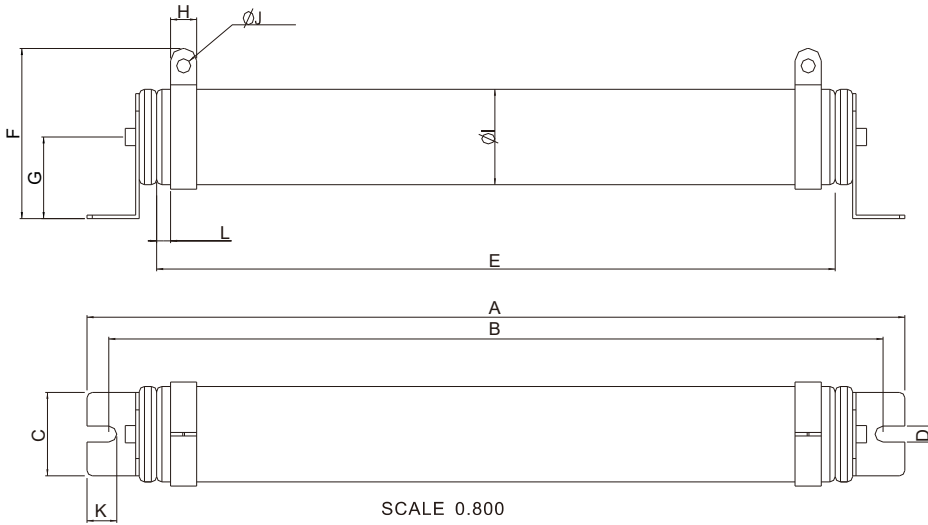

Figure 7-1
1.1 Wire wound resistors: For 1000 W and above, refer to the following appearance of wire wound resistor (Figure7-1) and its model and specification comparison table (Table 7-5) for details.